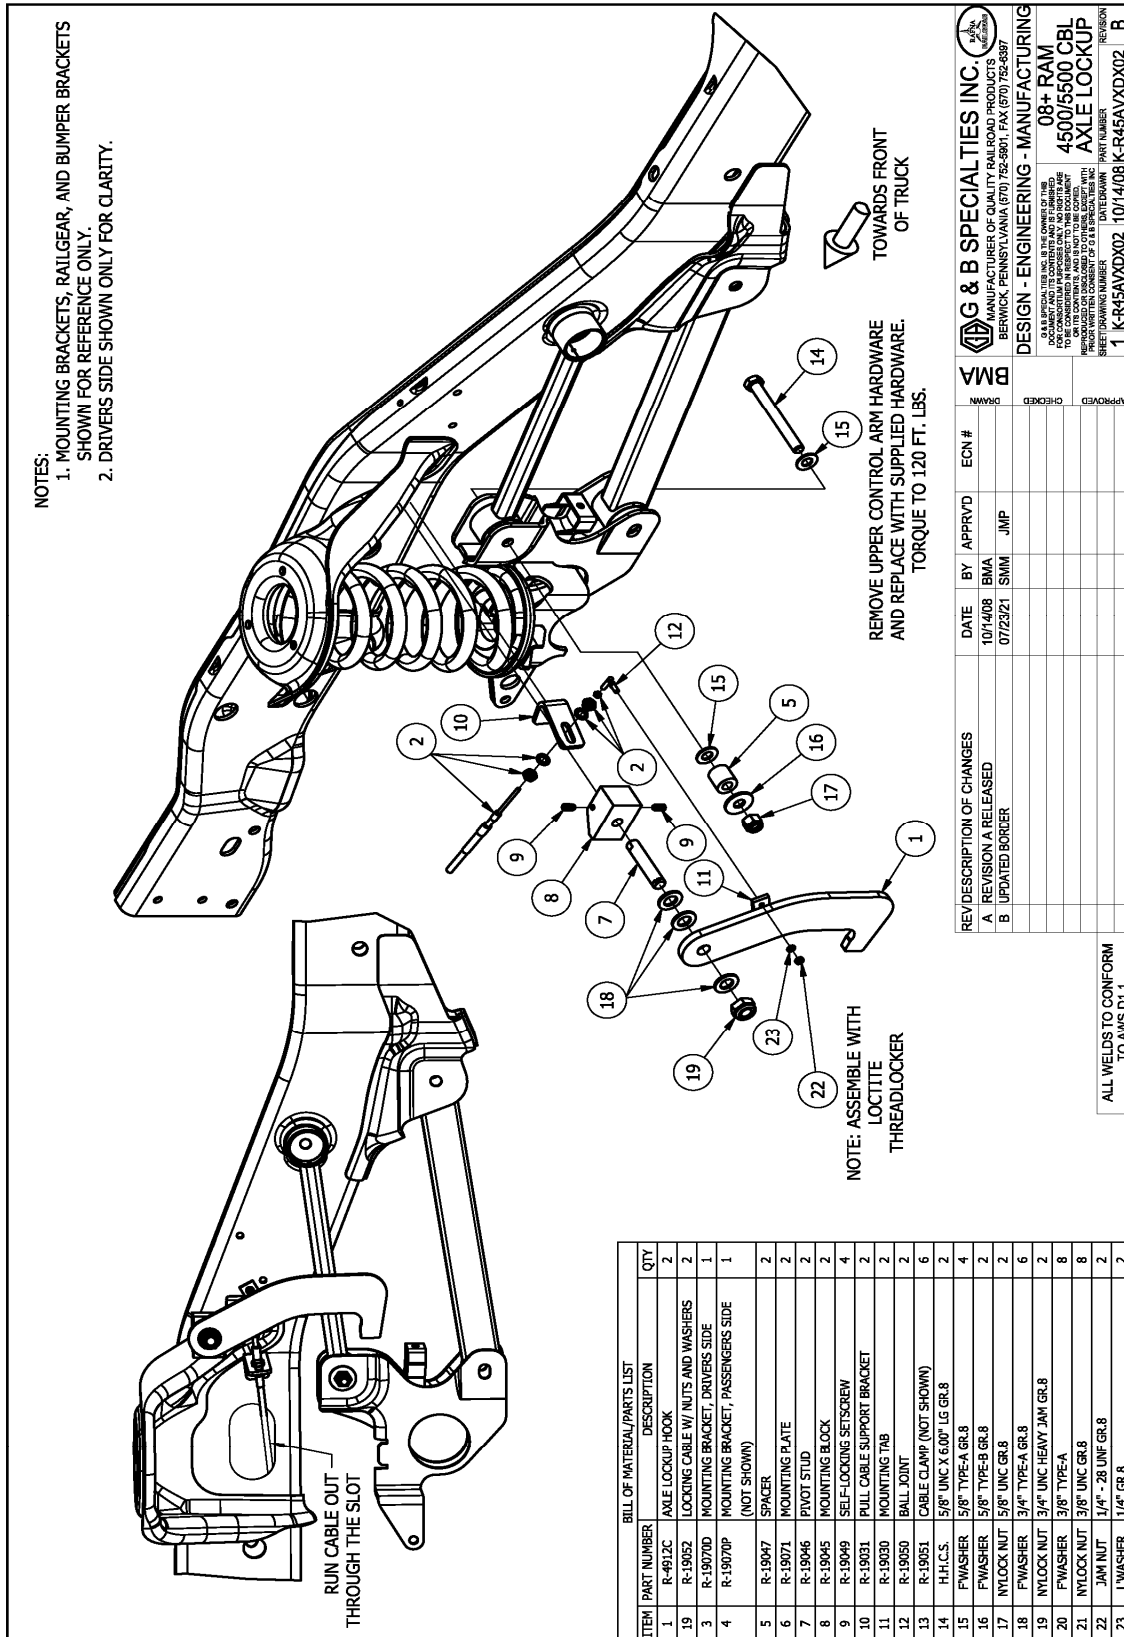

Figure 1: Assembly and Installation of Lockup
2. Remove the OEM hardware attaching the upper trailing arm to the front axle. (Figure 1)
3. Replace the removed hardware with one 5/8" x 6" long bolt, four regular washers, two wide washers, two spacers, and two nylock nuts as shown in Figure 1. **Torque to 120 ft. lbs. as specified by Chrysler service departments.**
6. Remove the hook and assemble both hooks with two or three 3/4" washers, and one heavy jam nylock nut as shown in Figure 1. Do not over-tighten, as the hook needs to swing freely by hand, and will need to be removed later for welding.
10. Run the cables through the frame and out the slot at the shock tower as shown in Figures 1 & 2.
11. Fasten the cable to the pull cable support bracket as shown in Figure 1. Do not tighten the fasteners as adjustment will need to be done later.
12. Fasten the mounting tab to the ball joints using a 1/4" lock washer and jam nut as shown in Figure 1. Use Loctite thread-locker when fastening.
13. With the hook engaged in the lock position, clamp the mounting tab to the hook as shown in Figure 1.